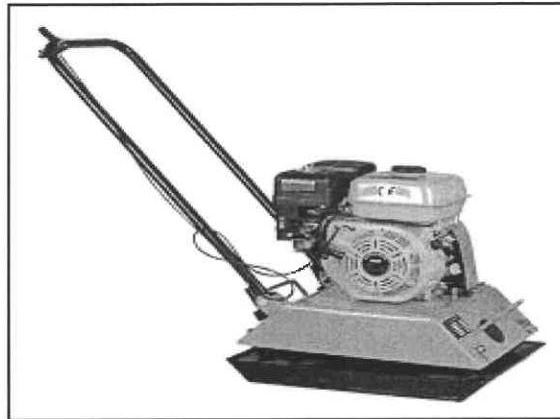

FIGURE 4.8
- 4.8 FIGURE 4.8 below shows a construction machine that is used when laying paving.